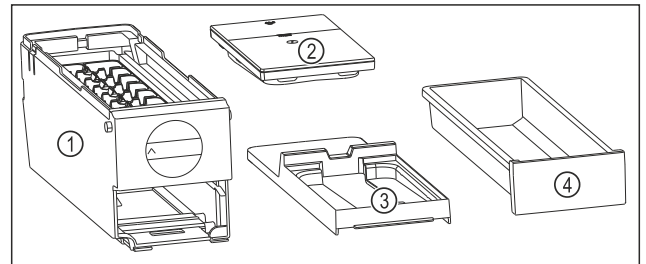

Fig. 79 Components of the EasyTwist-Ice
- EasyTwist-Ice is dismantled into four parts. (see Fig. 79)
- Only dismantle the EasyTwist-Ice into the components shown. (see Fig. 79)
- Clean the EasyTwist-Ice body Fig. 79 (1) as a whole.